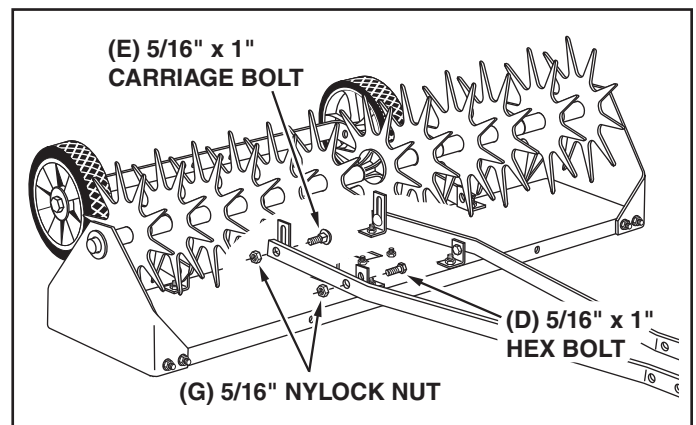

FIGURE 4 FRONT VIEW
5. Assemble the hitch mount arms to the **outside** of the hitch arm mount brackets at the rear of the tray using two 5/16" x 1" carriage bolts (E) and 5/16" nylock nuts (G). **Tighten** and then loosen the nuts 1/2 turn. See figure 4.
6. Fasten the hitch mount arms to the **outside** of the angle brackets at the front of the tray using two 5/16" x 1" hex bolts (D) and 5/16" nylock nuts (G). **Tighten** and then loosen the nuts 1/4 turn. See figure 4.